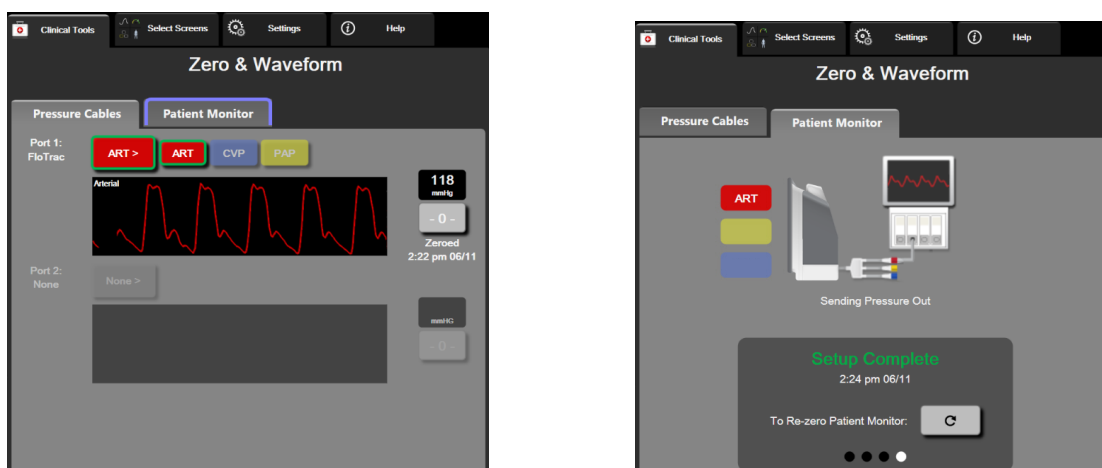

Figure 10-2 Zero & Waveform screens – Zero sensor and Pressure-Out
- 5 Touch the **Transmit Waveform** icon  to begin pressure signal output to the patient monitor. A “**Setup Complete**” message will be displayed when the live waveform is being transmitted to the connected patient monitor. See right screen shown in figure 10-2 on page 173.